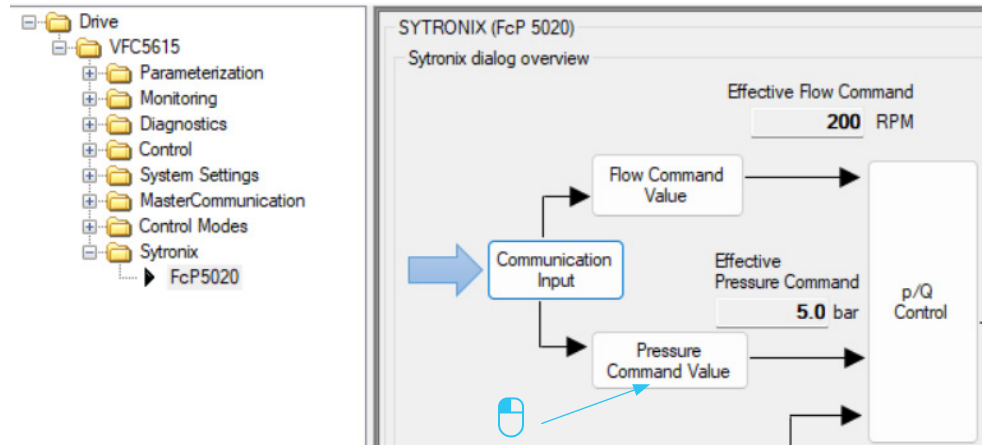

Fig. 23: Pressure command value fixed 1/2
1. Press "Pressure Command Value" (see Fig. 23: Pressure command value fixed 1/2).